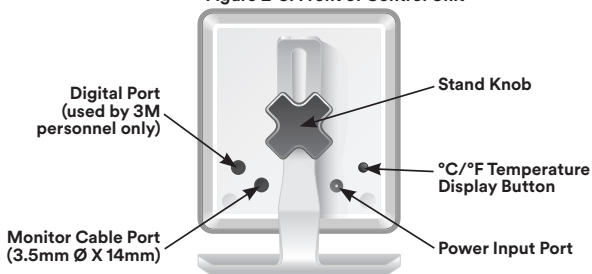

Figure 2-4: Back of Control Unit
2. Connect the power supply to the back of the control unit's power input port (see Figure 2-4). Plug the power supply into an appropriate outlet. The start-up screen will illuminate then transition to the standby screen.
4. If desired, use a monitor cable to connect the control unit to the patient monitor via the monitor port on the back of the control unit (see Figure 2-4).
The control unit can display temperature measurements in either Celsius or Fahrenheit. The unit is factory preset to Celsius. To change the display temperature units push the temperature display button on the back of the control unit (see Figure 2-4) while the control unit is powered on.